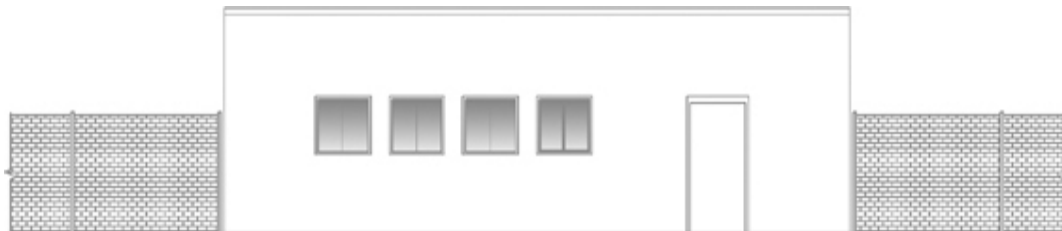

Figure 10-24
- 7** Save your drawing. Your drawing should look like Figure 10-24.